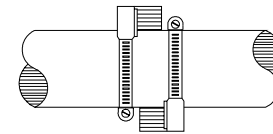

FIGURE 2
3) On small diameter shafts, it may be necessary to mount the magnet assemblies facing in opposite directions and secure both clamps around shaft. (See Figure 2).